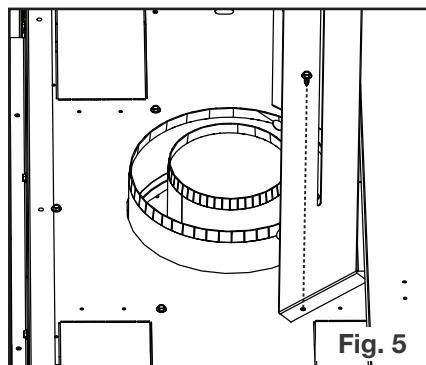

Fig. 5
5. Ensure both ends line up and secure ends with clip and fasteners (**Fig. 5**).
5. Use the fasteners in step 4 to secure the vent shield to the appliance (**Fig. 5**).